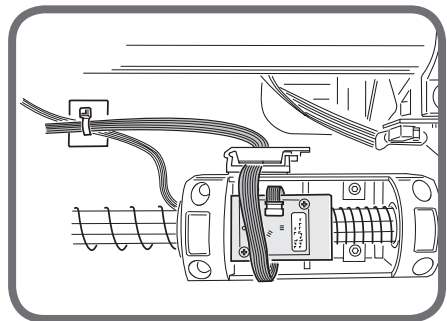

Fig. 6
If the sensor (A, fig.6) does not read, check:
- if the sensor A flat must be replaced, check that the flat is reconnected correctly (see Fig. 6) on the card. Also, the fixing of the flat on the base must be done so that it is long enough for moving the sensor without having the cable risk to twist around the inside of spring F figure 6.